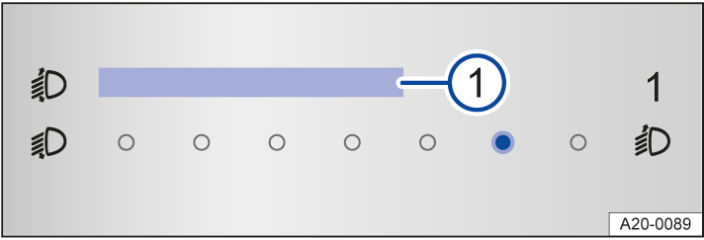

Fig. 1 In the Infotainment system: touch slider for headlight range control.
Depending on the vehicle equipment, the headlight range can be adjusted in the Infotainment system → Fig. 1.
- Tap the **Headlights** function button to open the menu option Headlight range control → Fig. 1 1.